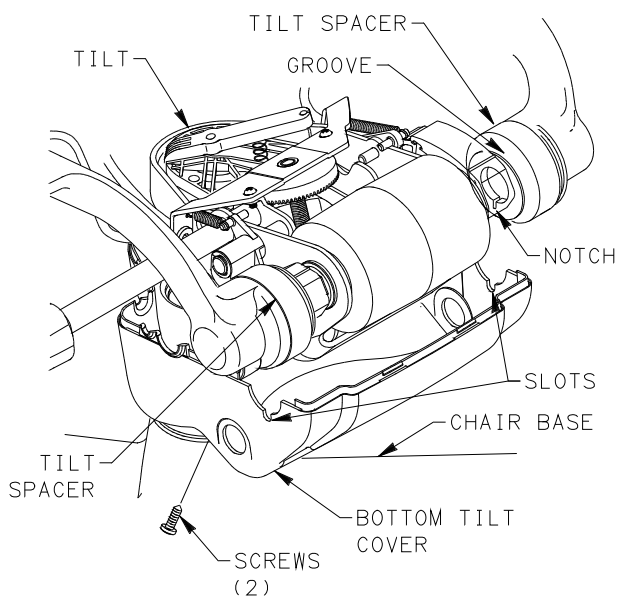

FIGURE 6
8. SLIDE BOTTOM TILT COVER UP TO TILT. MAKE SURE NOTCHES IN TILT SPACER GROOVES ENGAGE SLOTS IN TILT COVER. IF NECESSARY, ROTATE TILT SPACERS TO ALIGN NOTCHES WITH SLOTS. ALIGN (2) HOLES IN TILT COVER TO HOLES IN TILT. REINSTALL (2) SCREWS AND TIGHTEN. SEE FIGURE 6.